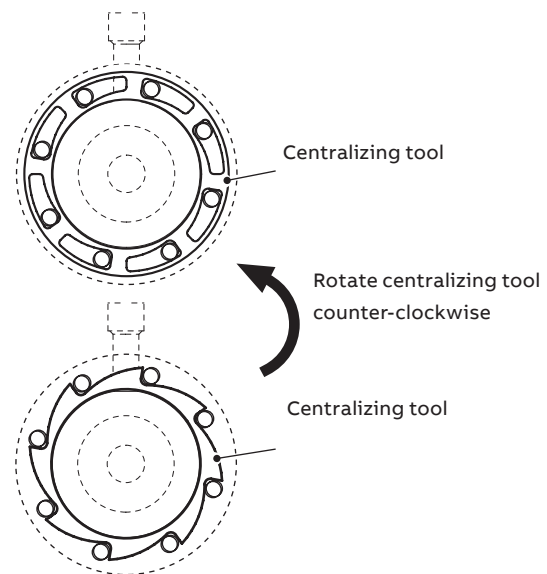

Figure 6 Optional centralizing tool (meter orientation shown in gas metering installation)
One of two types of centralizing tool is supplied with the meter – see Figure 6.
- 10 Referring to Figure 6, rotate the centralizing tool to push the bolts against the outer edge of the bolt holes.